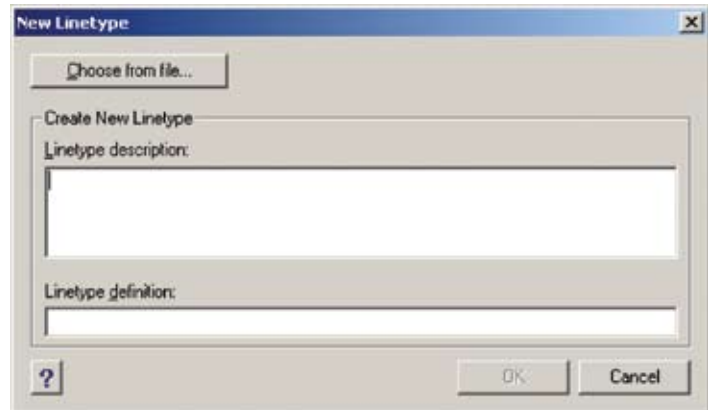

Figure 9.2
- The New Linetypes dialog box overlays the Explorer. See Figure 9.2.